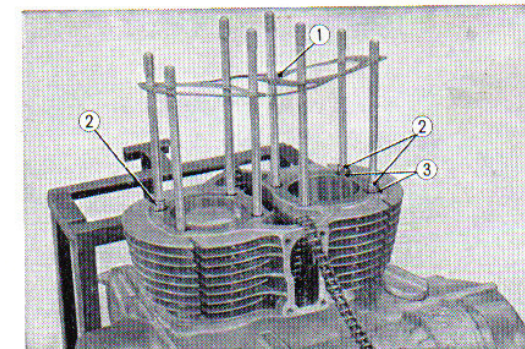

Fig. 3.18 Insurance before reassembling the cylinder parts
① Thickness gauge
② Square scale
1. Insure that the cylinder head gasket, three guide pins, and the two cylinder stud gaskets are properly installed. (Refer to Fig. 3.18)